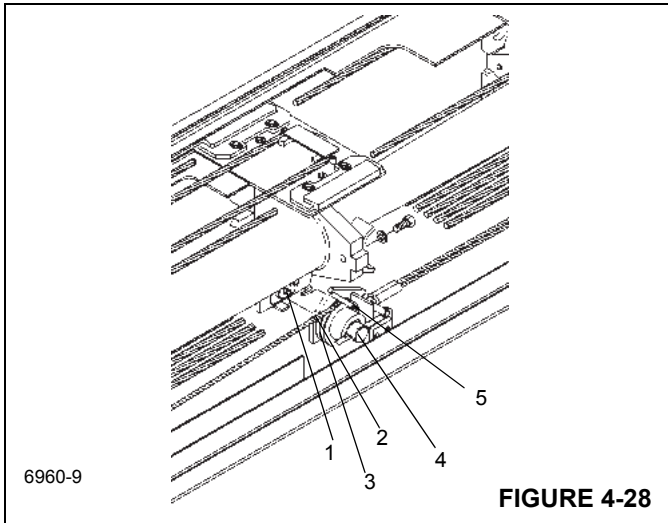

FIGURE 4-28
21. Install grease fitting (1) in two shaft weldments. Position retract cables (2) around sheave assemblies (3) (Figure 4-28). Install spacer bushing and install shaft weldment through mounting lugs in outer mid and the sheave assembly and spacer bushing (4). Secure each shaft weldment with a bolt. Apply grease to fittings.
22. Position cable retainer bushing (5) (Figure 4-28) on top of each sheave assembly and secure with a capscrew.